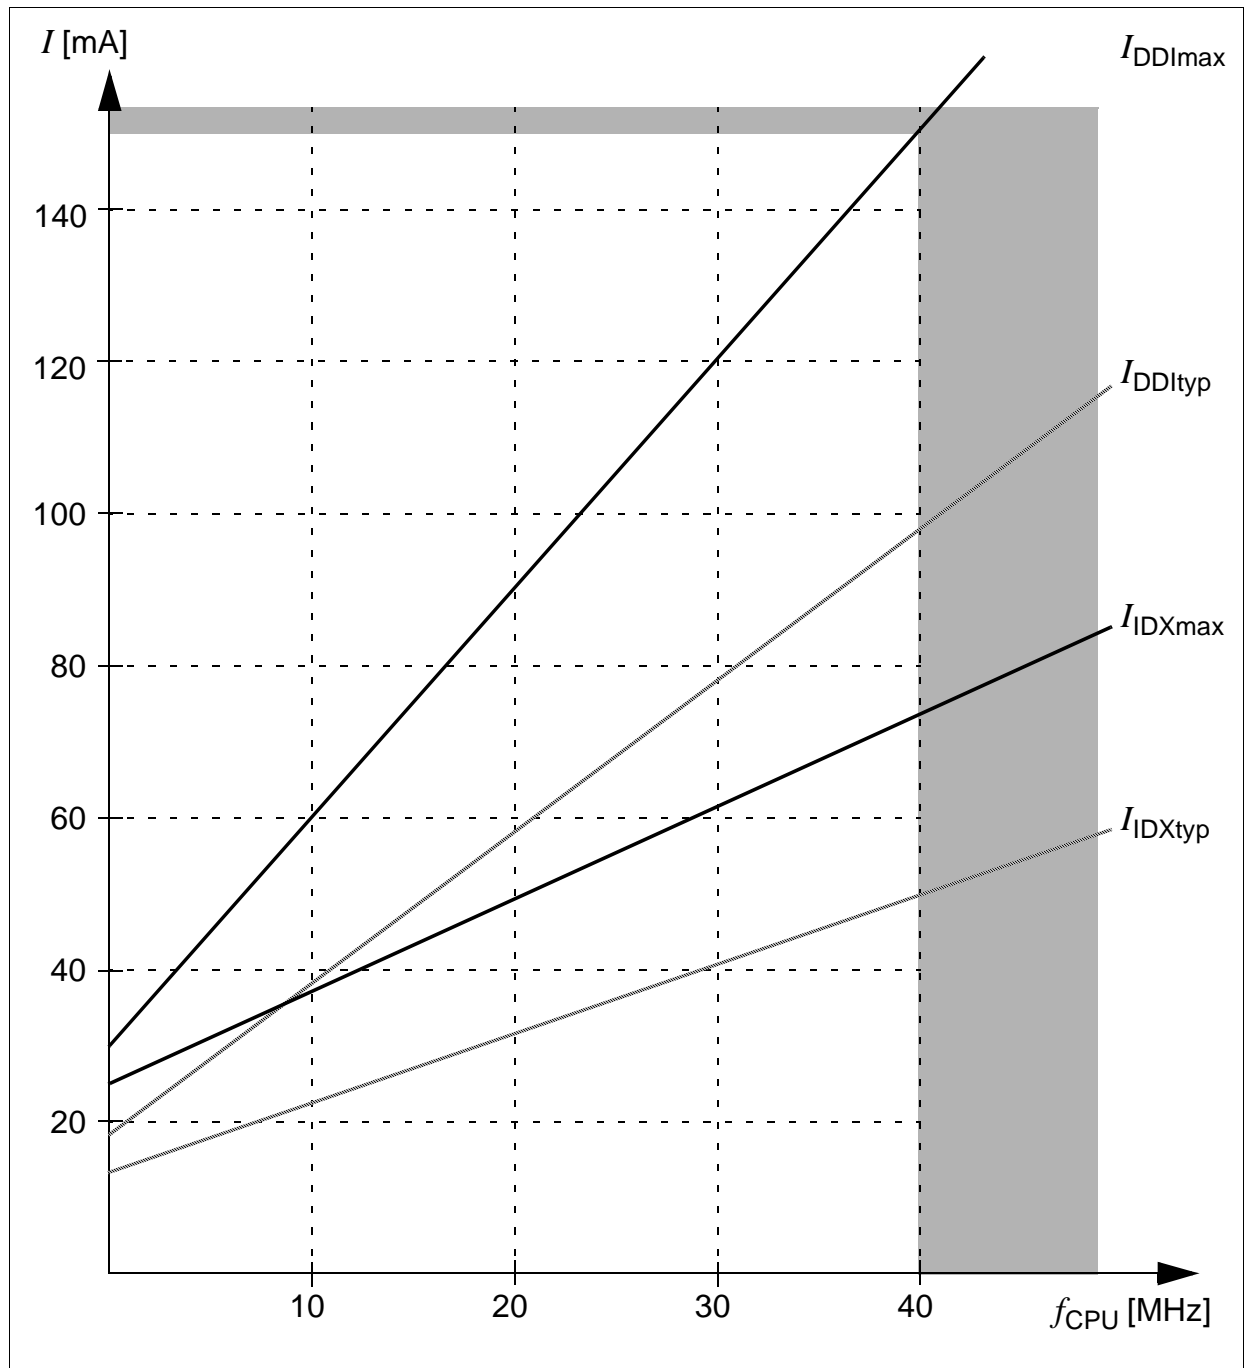

Figure 10 Supply/Idle Current as a Function of Operating Frequency
- ²⁾ The supply current is a function of the operating frequency. This dependency is illustrated in Figure 10. These parameters are tested at V_{DDImax} and maximum CPU clock frequency with all outputs disconnected and all inputs at V_{IL} or V_{IH} .